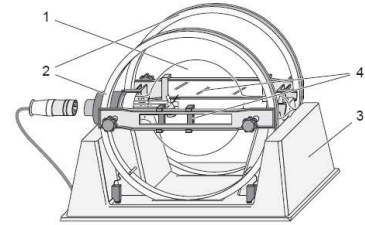

Figure 3.4: The Leybold apparatus with the electron canon inside a glass vessel (1). Helmholtz coils (2), holder (3), and radius measuring device (4).
The apparatus is shown schematically in Figures 3.4 and 3.5. The electron gun (K) emits electrons that can be deflected in a static electric field between the parallel deflection plates (P) and/or in a static magnetic field from the Helmholtz coils. The glass flask around the electron gun is filled with thin hydrogen gas to a pressure of approximately 10^{-5} atmospheres, 1 Pa. Shock between the electrons and the gas will excite the electrons in the gas molecules which then relax and emit light (same phenomenon as in the northern lights). The trace of the electrons then becomes visible as a blue-green stripe.